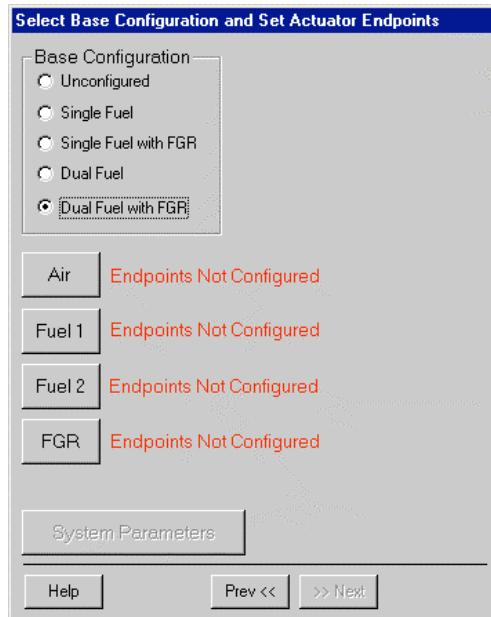

Fig. 7. Base Configuration for Dual Fuel with FGR.
- Press a button to configure the actuator. (If you selected 'Single Fuel' or 'Single Fuel with FGR' in the Base Configuration, the Fuel 2 button is not displayed. If you selected 'Single Fuel' or 'Dual Fuel' in the Base Configuration, the FGR button is not displayed.) When you press a button, the *Set Actuator Endpoints* screen is displayed. When the actuator has been configured, the word "Configured" is displayed next to the appropriate button. See Fig. 7.